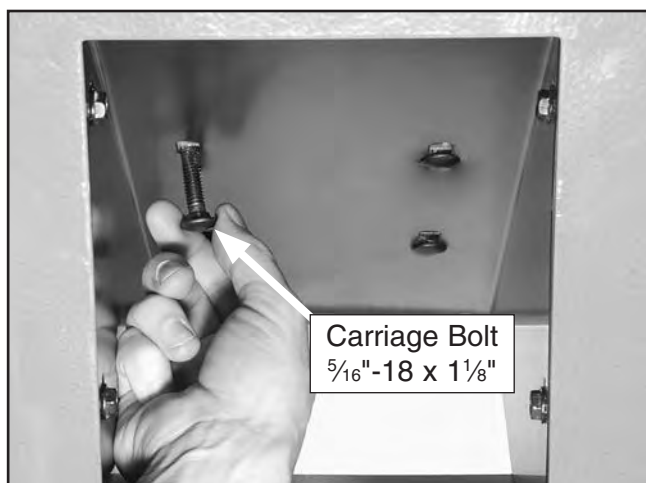

Figure 16. Securing motor to dust chute.
10. Reach into the dust chute, thread (4) $\frac{5}{16}$ "-18 x $1\frac{1}{8}$ " carriage bolts through the chute and motor and secure with (4) $\frac{5}{16}$ "-18 hex nuts and $\frac{5}{16}$ " flat washers (see **Figure 16**). Do not fully tighten the fasteners.